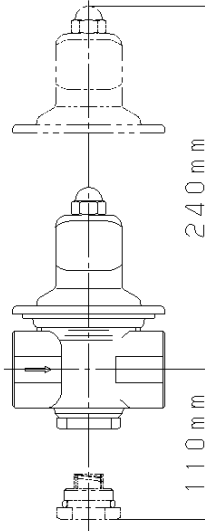

Fig. 2
- (6) When installing a quick opening/closing device for example a solenoid valve, the distance between the pressure reducing valve must be at least 3 m.
- (7) When two stage pressure reduction is employed, the distance between the two pressure reducing valves must be 3 m or more.
- (8) Before installing, verify the location of the inlet and the outlet. The arrow on the pressure reducing valve shows the direction of fluid. Observe that the arrow coincides with direction of fluid.
- (9) Piping to the pressure reducing valve must be so connected that excessive load, deflection and vibrations will not be applied to the valve.
- (10) Secure the necessary maintenance space at the installation site of the pressure reducing valve.
- ✘ Refer to Fig. 2 for dimensions of the maintenance space. If the space is smaller than these values, the valve cannot be disassembled for maintenance.
- (11) The set pressure of the safety valve must be higher than that of the pressure reducing valve.
- (12) Do not freeze the pressure reducing valve.
- (13) Do not allow pipe adhesive materials to leak into the pressure reducing valve.
- (14) Consider usage condition (usage frequency or durability) when selection.
- (15) If component having negative effect on inner parts is included in fluid and environment, deterioration of rubber parts is accelerated and causes outside leakage and functional disorder.
- (16) Horizontal or vertical installation is possible.
- (17) When using a product with a pressure gauge outdoors, provide a canopy or other protection to prevent rainwater from directly hitting the pressure gauge.